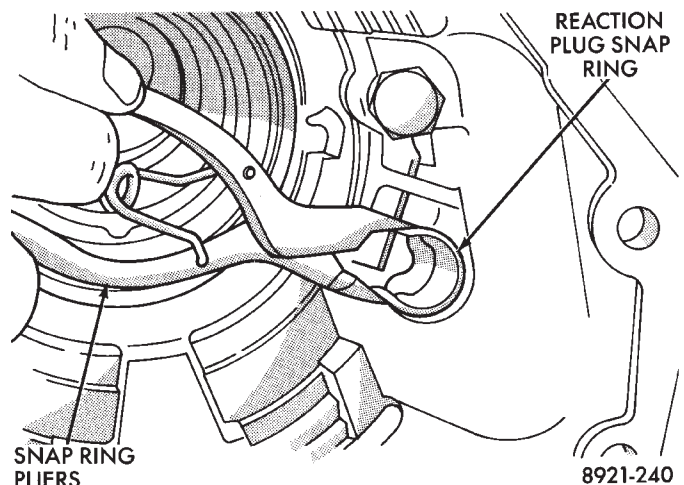

Fig. 300 Reaction Plug And Snap Ring Installation
(4) Install reaction plug snap ring (Fig. 300). **Compress snap ring only enough for installation; do not distort it.**